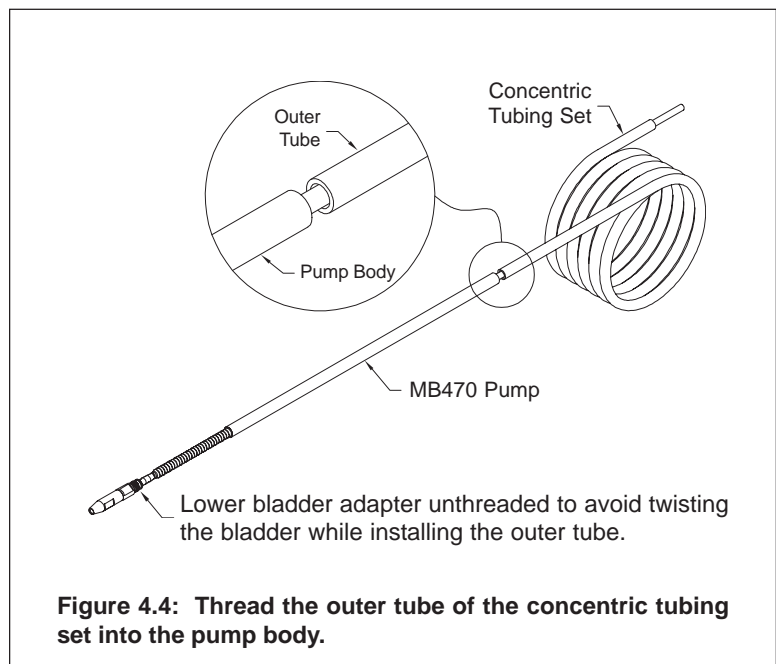

Figure 4.4: Thread the outer tube of the concentric tubing set into the pump body.
3. Push and thread the outer tube into the top end of the pump body (Fig. 4.4). The outer tube should be threaded about 0.75 inches (19 mm) into the pump body until it butts against the spring retainer. Remember to take care not to kink or otherwise damage the tubing during installation.